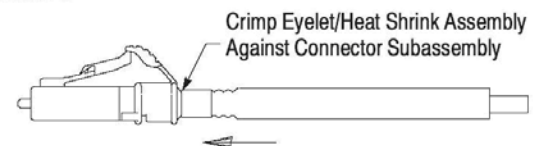

Figure 6
2. Uniformly distribute the cable strength members around the rear body of the connector. See Figure 6, Detail A.
If using the GEN II connector, ensure that the aramid strength members do not contact the housing, otherwise excess aramid can be caught under the bend-limiting boot. See Figure 6, Detail B.